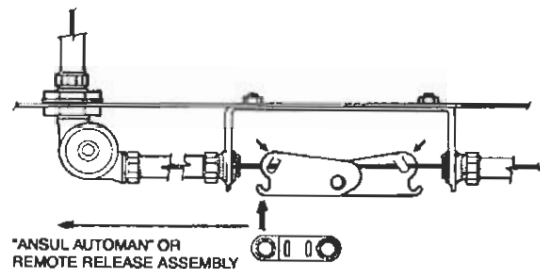

FIGURE 28
7. Install detector scissor assembly as shown in Figure 28. Note that the ANSUL AUTOMAN or remote release assembly is located on the left side of the detector bracket. Slightly crimp the two assembly “boot-hooks” over the cable with pliers so the cable is captured under each hook but the whole assembly can move from side to side. Center the assembly in the detector bracket.